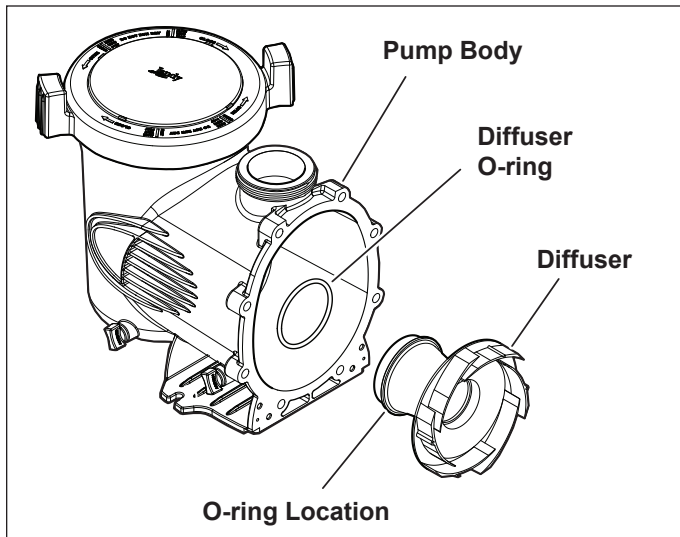

Figure 10. Locate Diffuser O-ring Groove
7. Make sure the diffuser o-ring, o-ring groove, and o-ring seal area are clean and free of debris, which could cause a leak. If you removed the o-ring, install it in the groove you removed it from, see Figure 10. If grease is used to retain the o-ring, it **must** be silicone based. **Do not** use petroleum-based grease. It **will** destroy the o-ring.